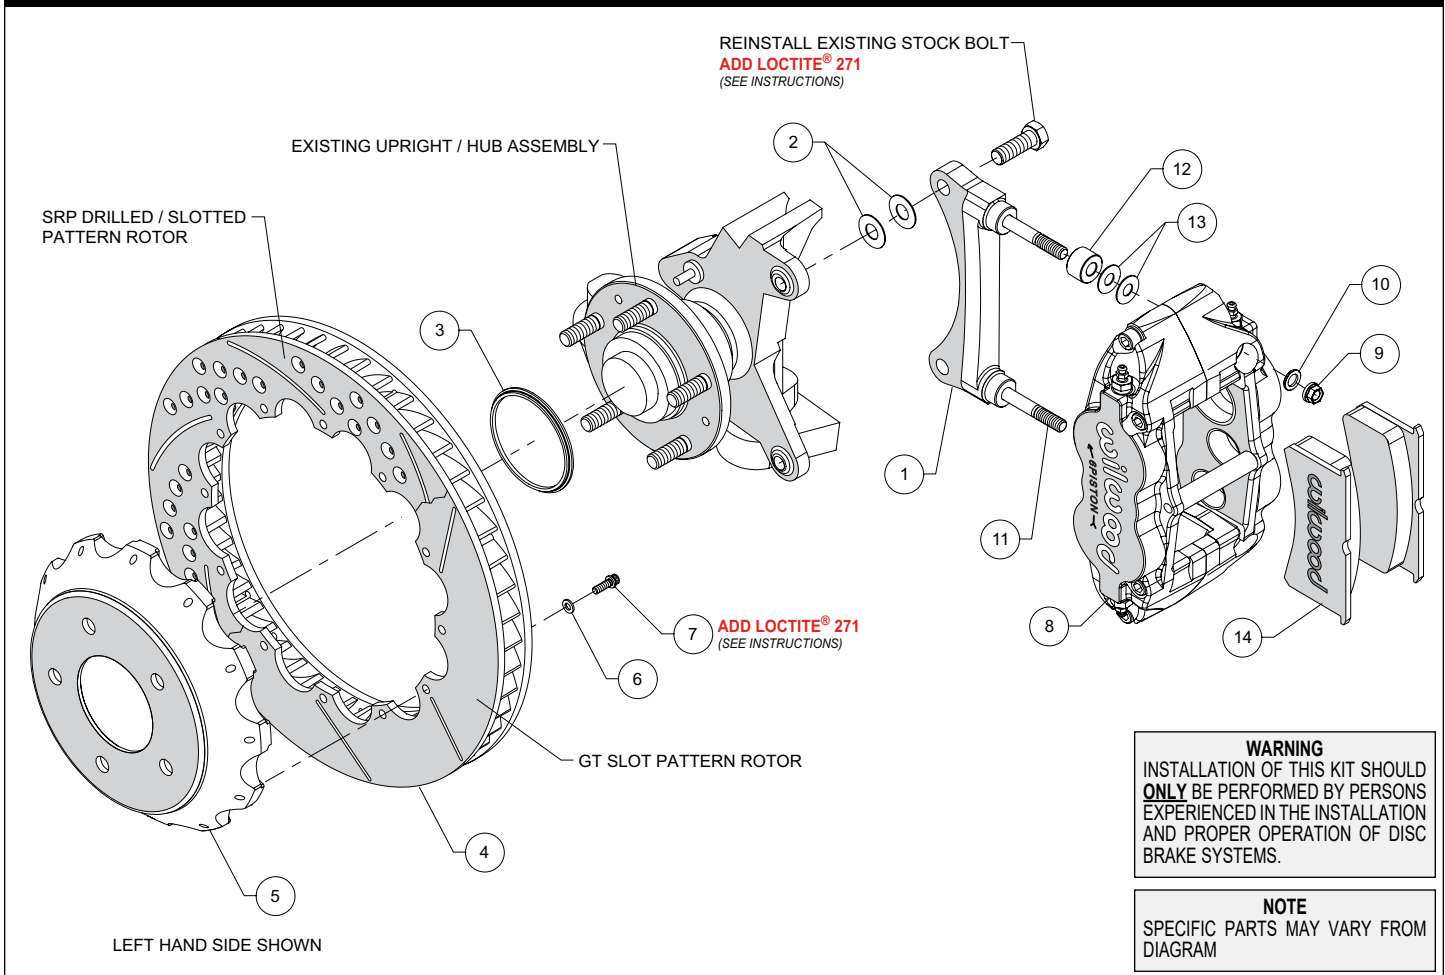
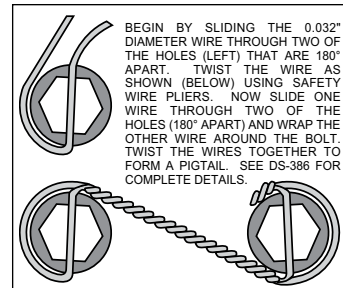

Figure 1. Typical Installation Configuration
Figure 3. Safety Wire Diagram
Assembly Instructions (numbers in parenthesis refer to the parts list and Figure 1 on the preceding pages):
- The caliper mount bracket (1) should initially be installed with clean, dry threads on the mounting bolts. Orient the bracket as shown in Figure 1, and install using saved Original Equipment Manufacturers (OEM) mounting bolts and shim washers (2). Initially place two shims (2) on each bolt between the bracket and upright, Figure 1. Temporarily tighten the mounting bolts. **NOTE:** The bracket must fit squarely against the mount bosses on the upright. Inspect for interference from casting irregularities, machining ridges, burrs, etc. Later, after the caliper alignment has been checked, the mount bolts will be secured using red *Loctite*® 271.
- Orient the rotor (4) and the hat (5) as shown in Figure 1 and Photo 1. Attach rotor to hat using bolts (7) and washers (6). Apply red *Loctite*® 271 to the bolt threads and torque to 155 **in-lb** using a criss-cross pattern. For an added measure of security, the bolts may be safety wired using standard 0.032 inch diameter stainless steel safety wire as shown in Figure 3. Please refer to Wilwood's data sheet DS-386 (available at www.wilwood.com/Pdf/DataSheets/ds386.pdf) for complete safety wire installation instructions.
- Slide the rotor registration adapter (3) onto the axle register on the axle hub with the smaller O.D. facing outward, Photo 2. Slide the hat/rotor assembly onto the axle hub. **NOTE:** The hat must fit flush against the axle hub flange or excessive rotor run out may result. Install three lug nuts (finger tight) to keep the hat/rotor assembly in place while continuing with the installation.
- **NOTE:** This kit contains distinct right and left hand calipers that must be mounted in a specific direction, as described below. Initially place two .035" thick shims (13) and spacer (12) on each stud (11) as shown in Figure 1 and Photo 3. With the bleed screws pointing up, mount the caliper (8) onto the bracket (1) using lock nuts (9) and washers (10), Figure 1 and Photo 4. Ensure that the caliper is mounted so that the largest pistons are at the rotor exit end of the caliper, in relation to the direction of rotor rotation. Temporarily tighten the lock nuts and view the rotor through the top opening of the caliper. The rotor should be centered in the caliper, Photo 5. If not, adjust by adding or subtracting shims (2) between the bracket and the upright. Always use the same amount of shims on each of the two mounting bolts. Once the caliper alignment is correct, remove the bracket mounting bolts one at a time, apply red *Loctite*® 271 to the threads, and torque to manufacturer's specifications.